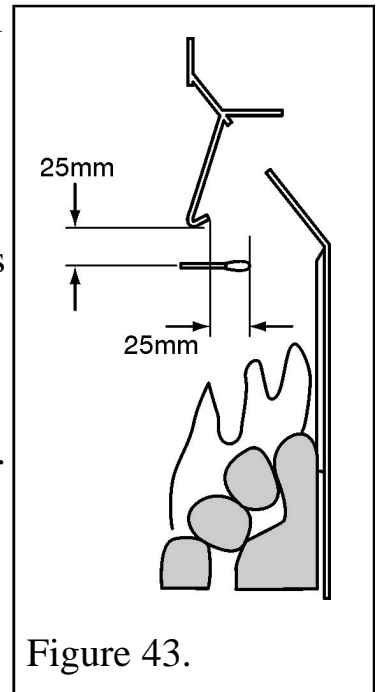

Figure 43.
- Place the smoke match tube into the burner box below the hood (See figure 43).